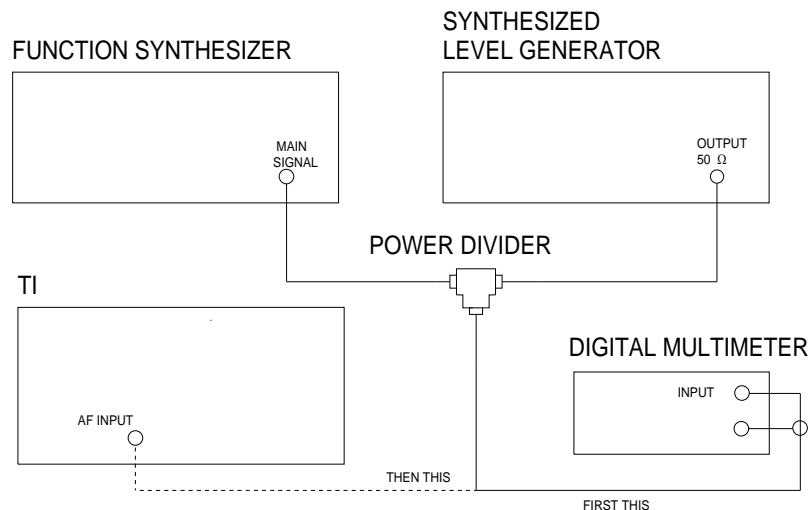

Figure 1.
4.3.2.1 Connect equipment as shown in Figure 1 with the Power Divider input connected to the Digital Multimeter input.
4.3.2.13 Set all outputs to minimum. Connect equipment as shown in Figure 1 with the Power Divider input connected to the Digital Multimeter input.